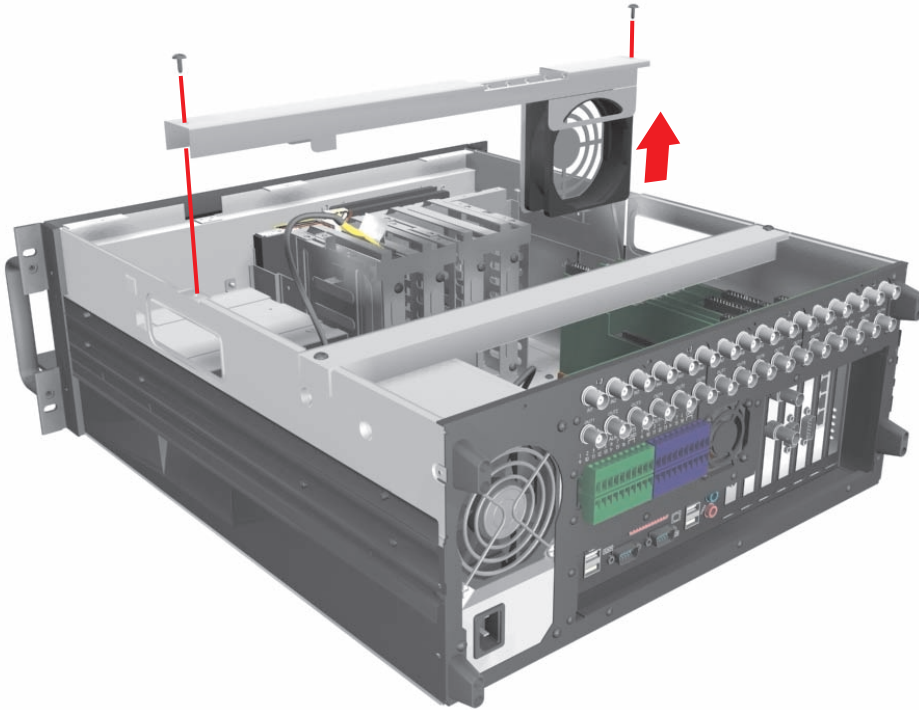

Figure 6. Removing Front Cross-Brace
- a. Use a Phillips-head screwdriver to remove the two flat-head screws that secure the front cross-brace. Refer to Figure 6.